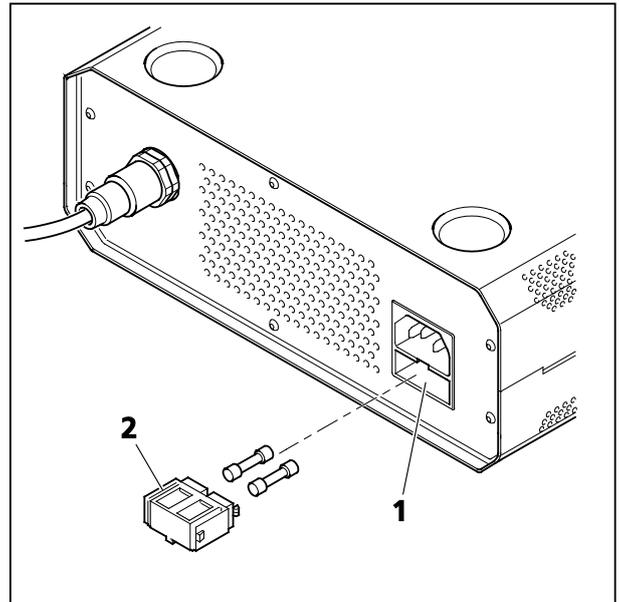

Fig. 13 Changing the fuses in the Axio Observer 7 materials
- Pull out the fuse holder (Fig. 13/2) frontward.
- Reinsert the fuse holder into the fuse compartment (Fig. 13/1) until it clicks into place.